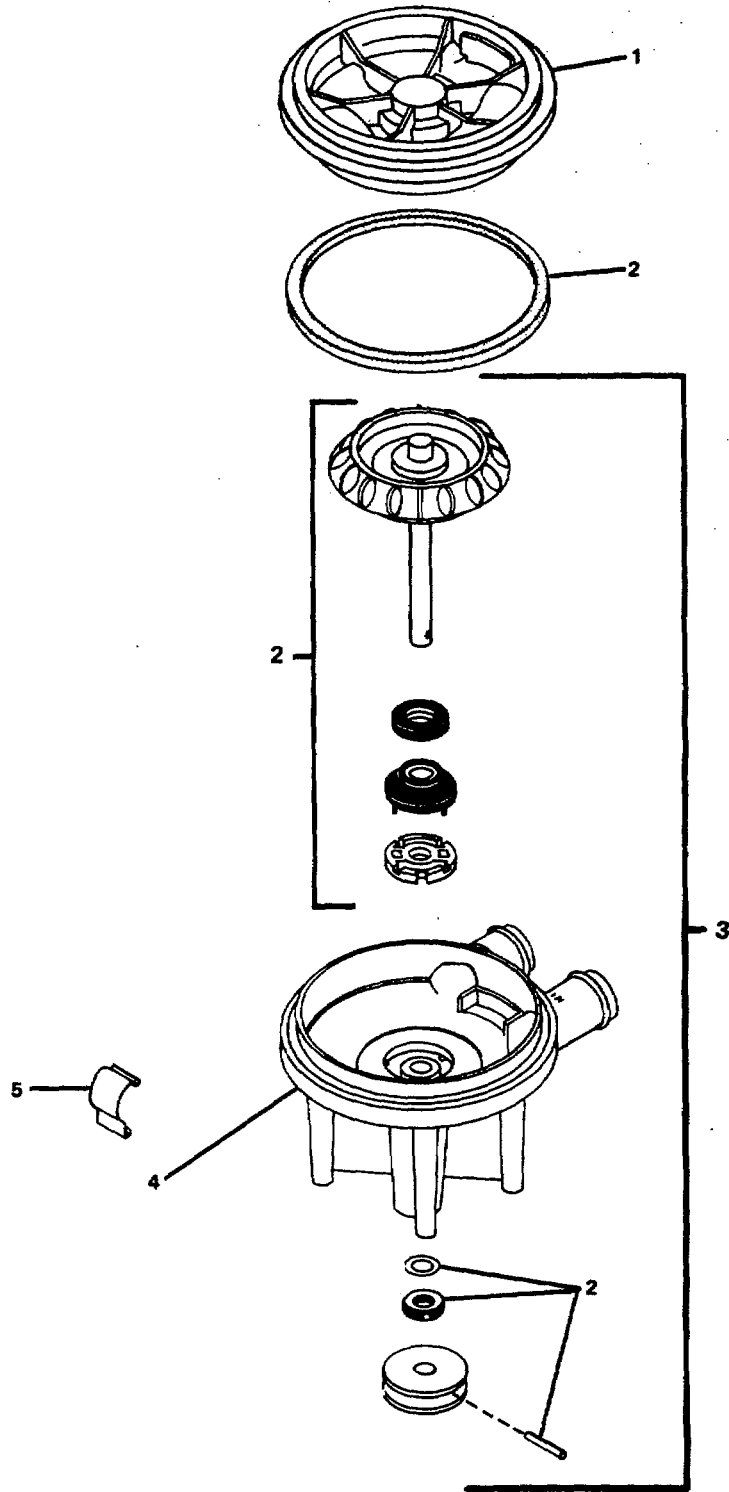

FIGURE 3-90. *Washer Machine Centrifugal Pump.*
**3-101. Repair Washer Machine Centrifugal Pump. (Figure 3-90)**